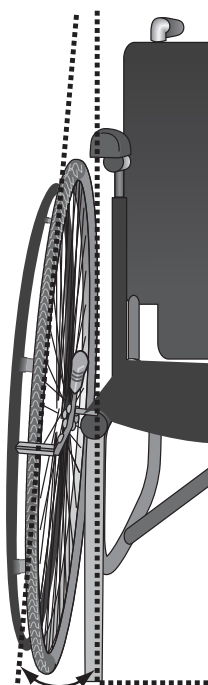

Figure 2.
- **Camber** is the angle of the wheel with respect to the chair (Figure 2). A little camber is a good thing as it will protect your hands and increase your base of support. Too much camber will make it hard to fit through doorways.